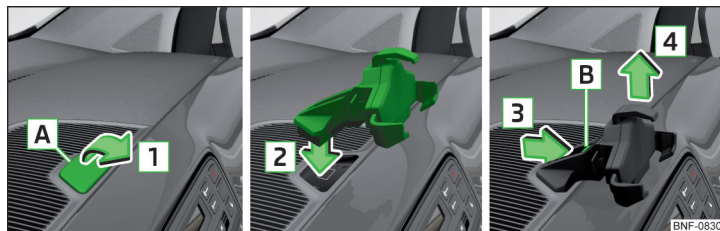

Fig. 78 Remove cover/ attach adapter / remove adapter
- For example, insert a coin into the opening **A** and lift up cover in direction of arrow **1** » Fig. 78.
- Push the release button **B** in the direction of arrow **3** and remove the adapter in the direction of arrow **4** » Fig. 78.